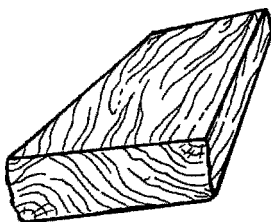

Figure 2.17 Cribbing, 2 in. $\times$ 4 in.
1. Cribbing consists of short boards used to elevate, level, or block a wheel or chair or other pieces of equipment (Figure 2.17).